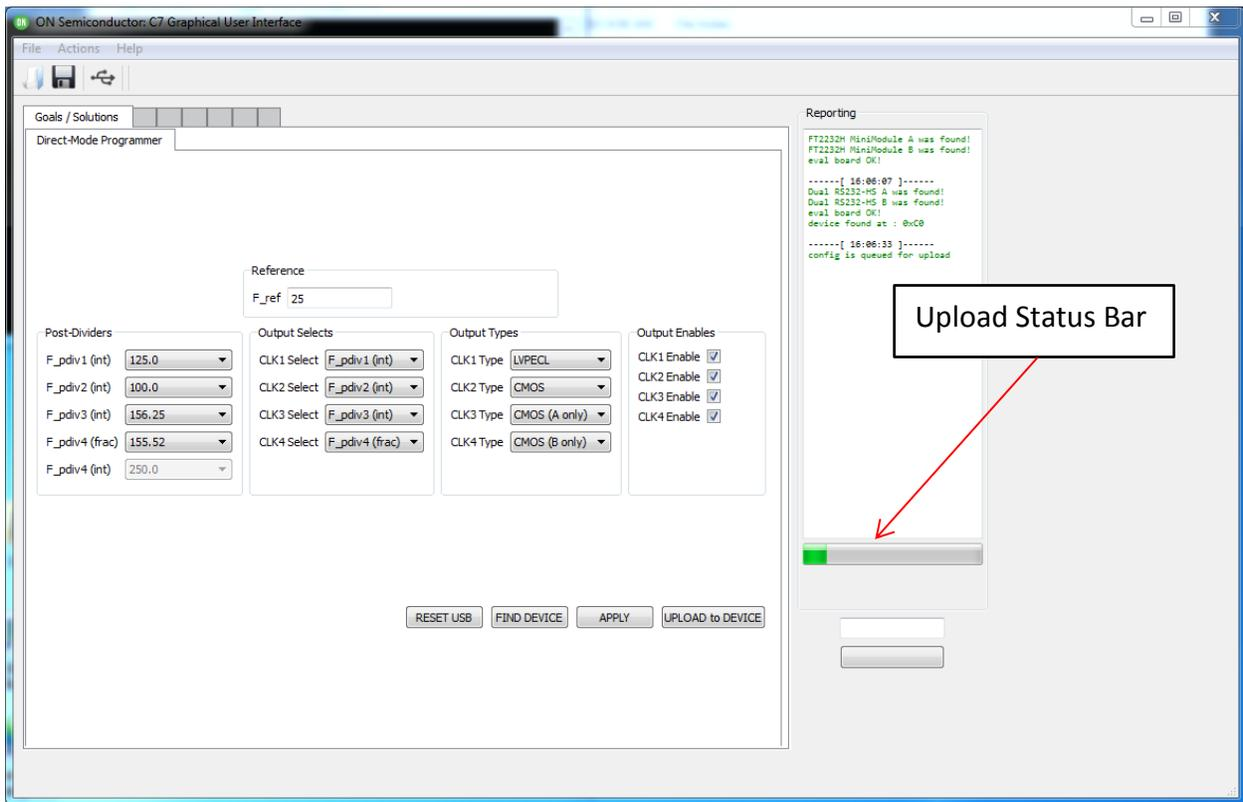

Figure 6: Upload Status Bar
- 3) Please note status bar as part is being programmed. (Figure 6)